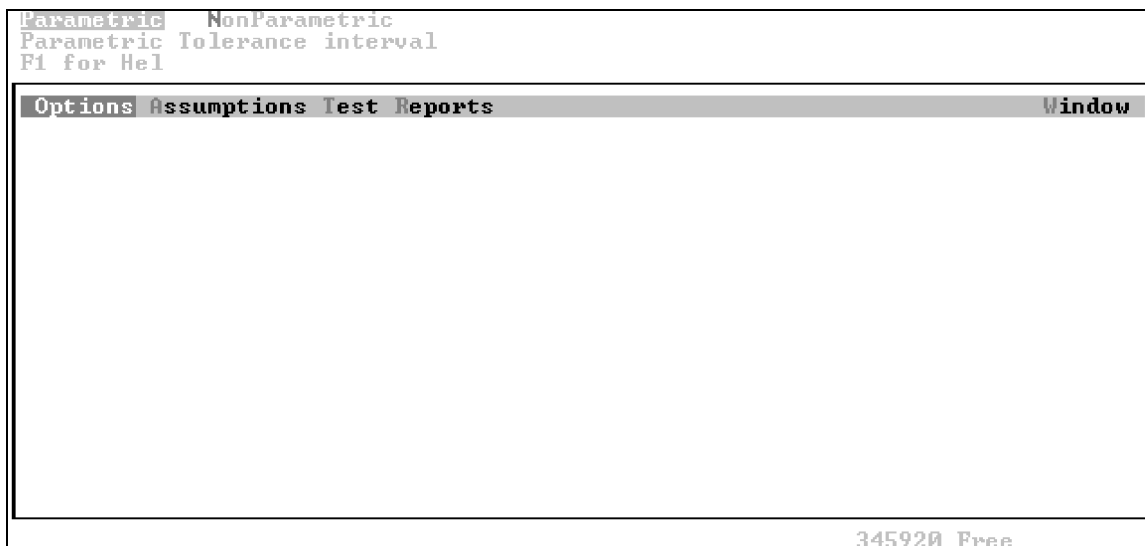

Figure 5-47. The Parametric Tolerance Interval Menu.
5. Press <P> to execute the Parametric option. The Parametric Tolerance Menu appears on your screen as shown in Figure 5-47.